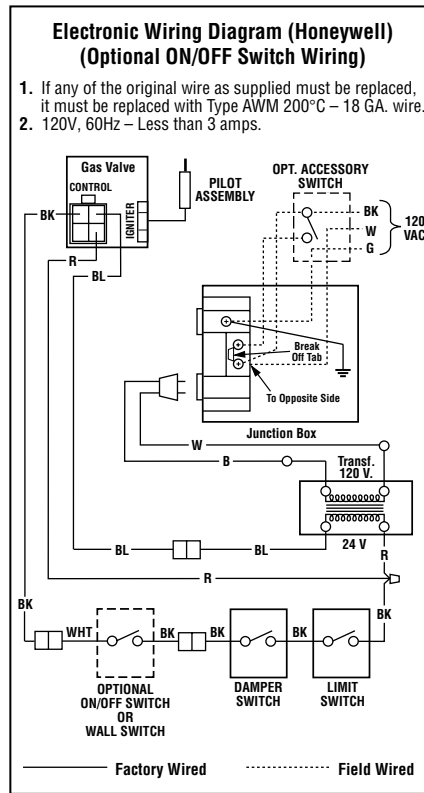

Figure 12
1. Route a 3-wire 120V 60Hz power supply to the appliance junction box and ground. (See Figures 12 and 14).
2. Locate and install a low voltage (24V) wall switch (not supplied) in the desired location. Connect the low voltage wire to this switch (see Figure 12).
IMPORTANT: Ground lead must be connected to the green screw located on the outlet box. See Figure 12. Failure to do so will result in a potential safety hazard. The appliance must be electrically grounded in accordance with local codes or, in the absence of local codes, the National Electrical Code, ANSI/NFPA 70-(latest edition). (In Canada, the current CSA C22-1 Canadian Electrical Code.)